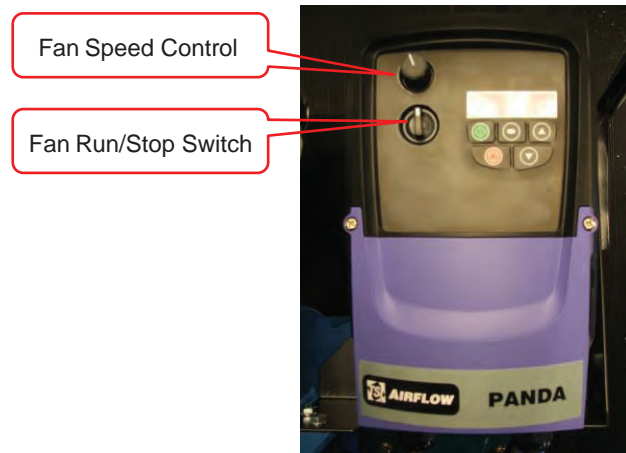

Figure 1. Fan Speed Controller
5. Make sure the Fan Run/Stop Switch on the Fan Speed Controller is in the **Stop** position and the multi-turn Fan Speed Control potentiometer is fully turned counter-clockwise using the picture of the VFD in Figure 1 as a reference. Plug the cord into the PANDA unit as shown in Figure 2 and Figure 3. Then connect the other end of the cord to a suitable electrical supply.